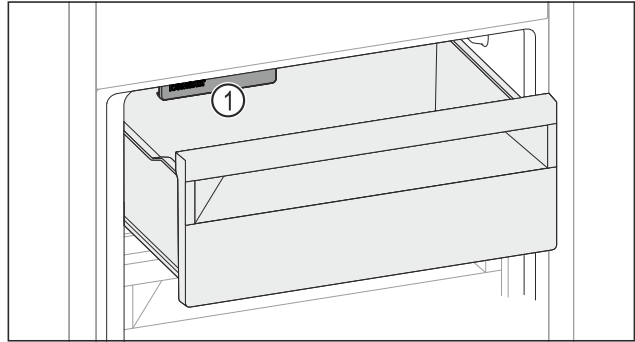

Fig. 178
- ▶ Watch out for the IceMaker Fig. 178 (1).